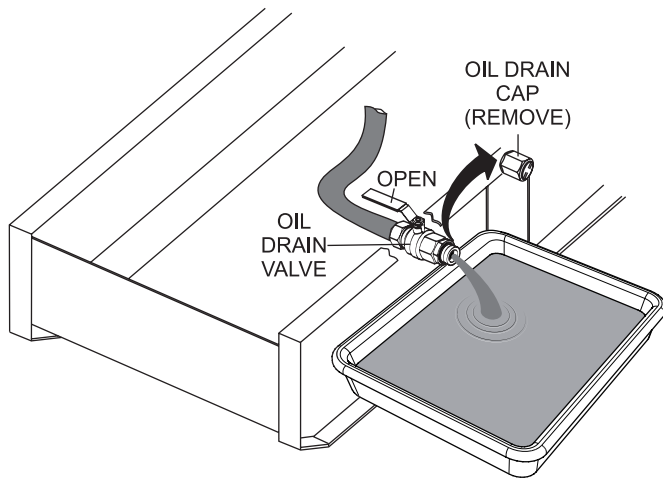

Figure 181. Draining The Engine Oil
4. Remove the **oil drain cap** (Figure 181).
5. Place the **oil drain valve** in the open position (Figure 181) and allow the oil to drain into a suitable container.